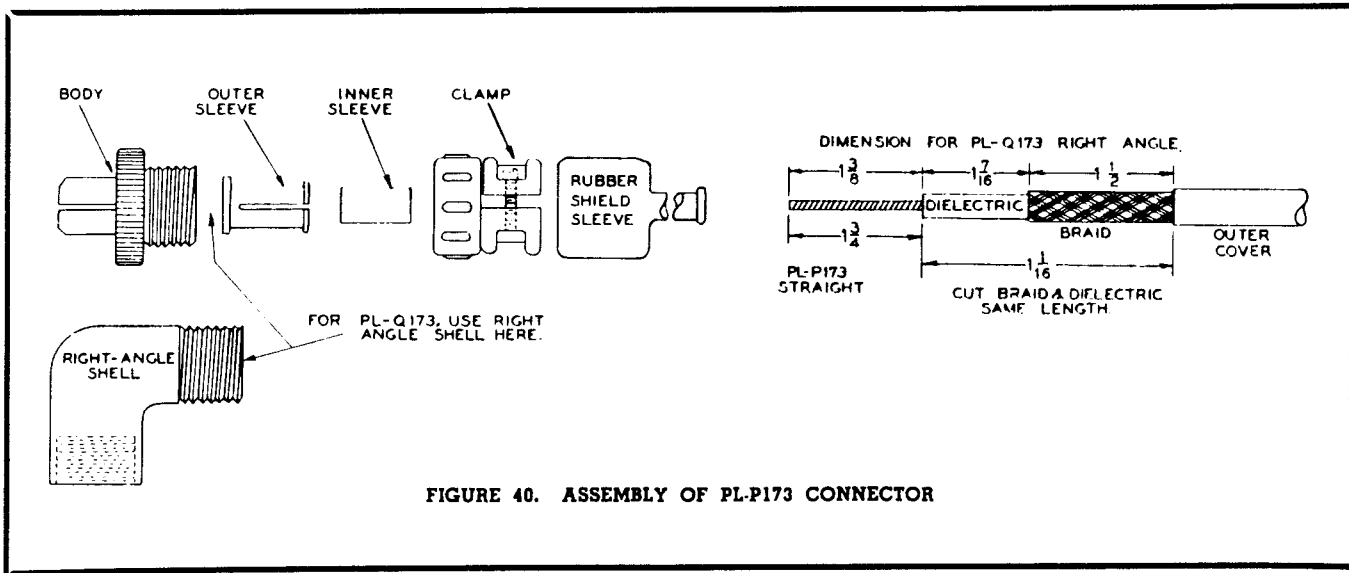

FIGURE 40. ASSEMBLY OF PL-P173 CONNECTOR
- (1) With cable stripped as shown in figure 40, push rubber sleeve and cable clamp onto cable.
- (2) Push small inner sleeve over shield braid down to outer cover.
- (3) Split braid down to left edge of inner sleeve.
- (4) Roll braid back over inner sleeve.
- (5) Push outer sleeve over inner sleeve and coaxial outer cover, until it is flush with end of inner sleeve.
- (6) Insert cable into body of connector, with conductor extending through contact.
- (7) Screw cable clamp onto connector and tighten clamping screws.
- (8) Solder conductor to front of contact and slip rubber guard over cable clamp.